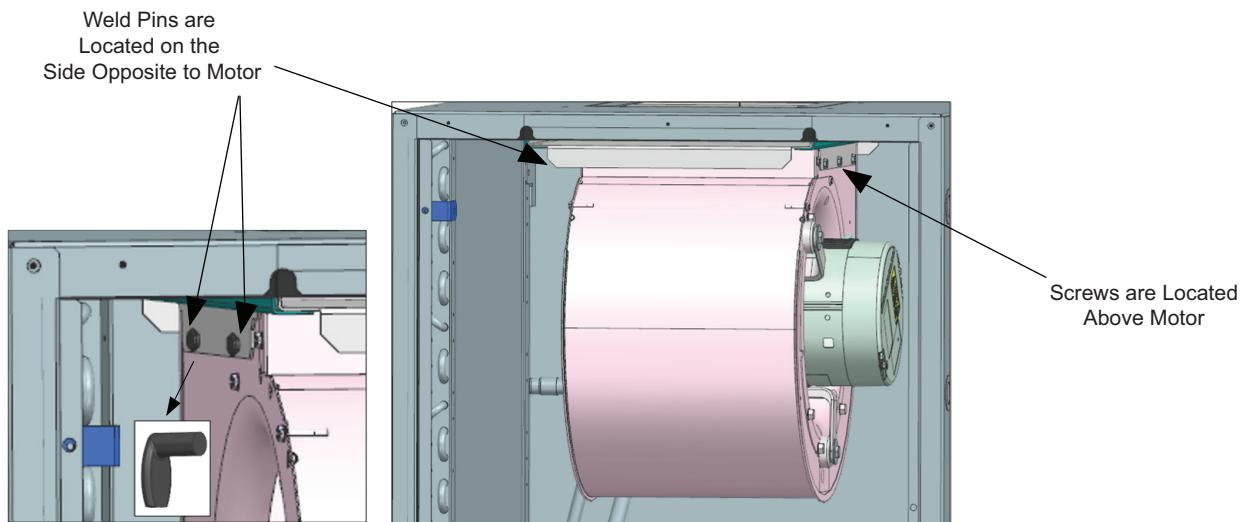

Fig. 41 — Vertical Units Blower Assembly
4. Drop down and slide off the welded pins situated on the opposite side from the motor. See Fig. 41.